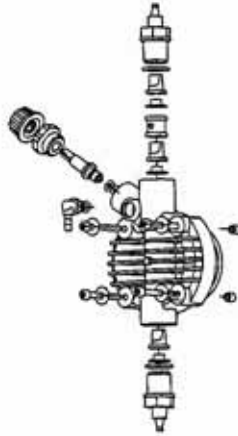

Fig. 10
3. Drain or flush all dosing liquid from the pump head. This operation can also be done with the pump disconnected from the plant by turning the pump upside-down for 15 to 30 seconds and without connecting the tubing to the nipples: if this operation is not possible, dismantle and remount the pump head using the four mounting screws. (Fig. 10).
- the additive concentration in the pipework; a reduction of this concentration could be caused by the wearing of the valves, in which case they need to be replaced (Fig. 10) or by the clogging of the filter which then has to be cleaned as in point 3 here below.
This operation can also be done with the pump disconnected from the plant by turning the pump upside-down for 15 to 30 seconds and without connecting the hose to the nipples; if impossible, dismount and remount the pump head (Fig. 10) using the four mounting screws.
As the system is quite robust there are no apparent mechanical problems. Occasionally there might be a loss of liquid from the nipple because the tube nut has loosened, or more simply the discharge tubing has broken. Very rarely there may be losses caused by the breakage of the membrane, or by the membrane seals in which case they have to be replaced by disassembling the four screws of the pump head (fig. 10), when re-mounting the pump head ensure that the screws are replaced properly, along with "O" ring. After repair, the metering pump will need to be cleaned of additive residues which can damage the pump casing.
❶ THE METERING PUMP GIVES PULSES BUT THE ADDITIVE IS NOT INJECTED
- a. Dismount the suction and discharge valves, clean them and replace, see position (fig. 10). Should the valves be swollen, check valves material against our chemical resistance compatibility chart and fit correct valves. Standard valves are Viton. Upon request ball check valve, can be supplied.